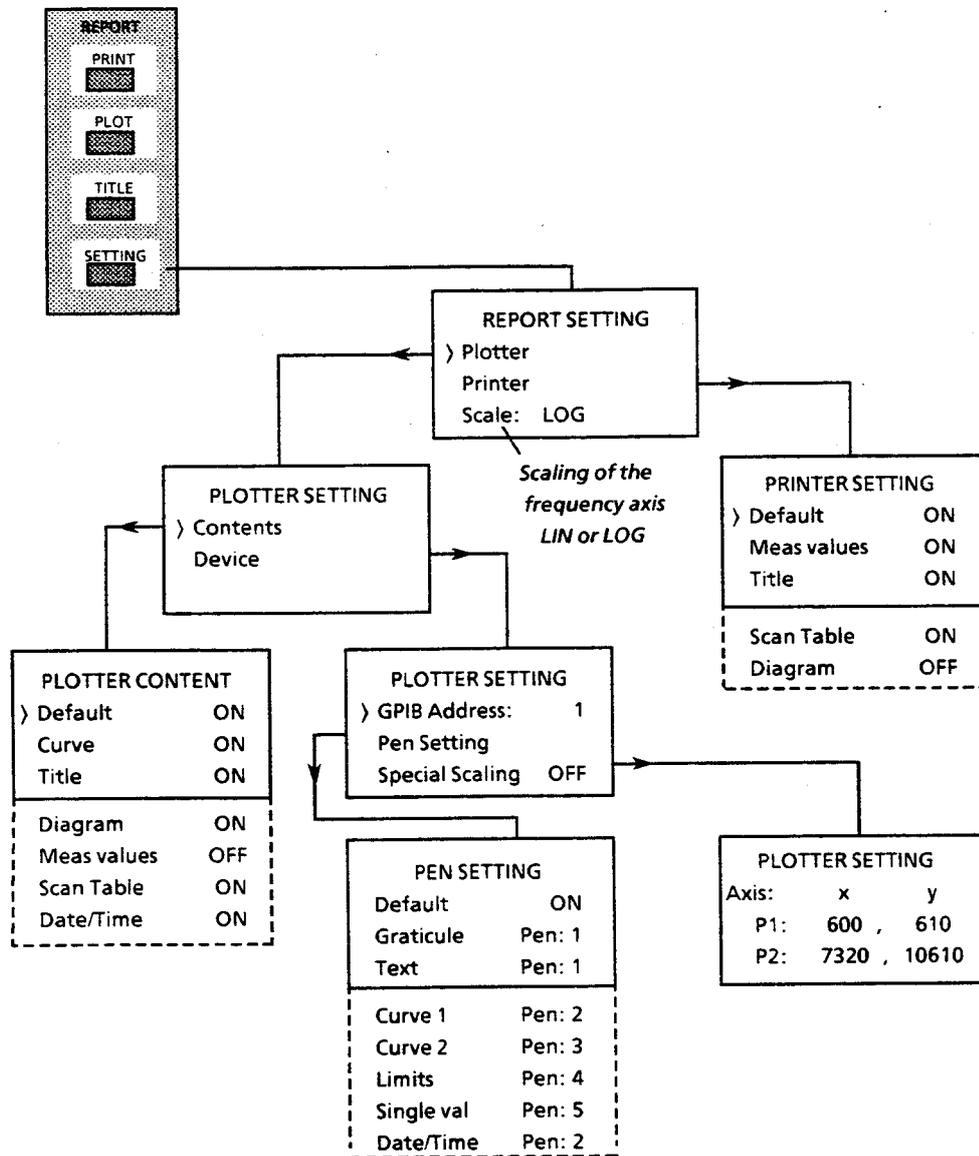

Fig. 3-22 Presettings for plotter or printer output
Default setting (cf. fig. 3-22) is output with graticule including labelling, heading, date/time and test curves. The measured value table is not part of the default setting as it can be output more conveniently and quicker on a printer.
**Pen Setting** A submenu in which the individual plotter pens can be assigned to the various components of the test report is called using the menu point *Pen Setting*. With default setting (Default ON) the pens are selected as shown in fig. 3-22. When selecting a different pen assignment, default changes to OFF. Figures from 0 to 8 are permissible for the pen number. Other inputs are ignored, i.e. the former value is kept. Entering the figure 0 means that no pen is selected.
**Special Scaling** If another type of scaling of the test report than that specified by the plotter used is desired, the bottom left (P1) and the upper right (P2) corner of the report can be set separately with the help of the menu point "*Special Scaling*". When activating this menu point a submenu is called in which the values selected for P1 and P2 are entered. Values ranging from - 32768 to (+) 32767 are permissible for the coordinates. Illegal values are not accepted. The values for the coordinates depend on the plotter used and must be learnt from the manual of the plotter. The ESVD is preset for the use of the R&S-plotter DOP (cf. fig. 3-22). After having ended the input the status of *Special Scaling* changes to "ON".
**Presetting of the Printer:** The menu for setting the printer (PRINTER SETTING) offers the selection between the various elements of a report similarly as with plotter output (see above). Default setting means output of the title with measured value table and output of the scan settings (cf. fig. 3-22).